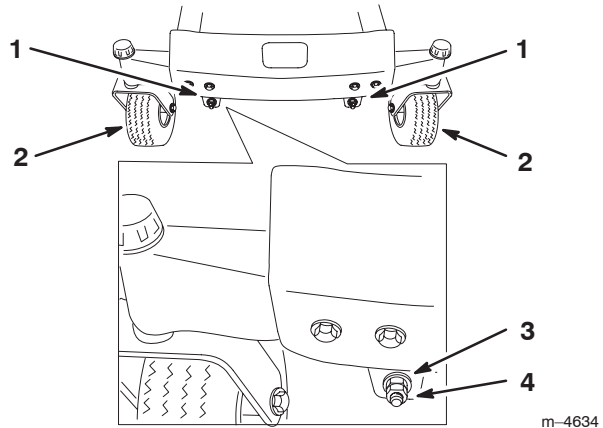

Figure 42
10. To adjust the front-to-rear blade slope, remove the locknuts and then rotate the adjustment nuts in the front of the mower (Fig. 42).
12. After adjusting both adjustment nuts evenly, check the front-to-rear slope again. Continue adjusting the nuts until the front blade tip is 1/16–5/16 inch (1.6–7.9 mm) lower than the rear blade tip (Fig. 42).
Note: After adjusting the adjustment nuts, make sure there is **no slack** in either support rod (Fig. 44). Tighten either one to remove the slack (Fig. 42).